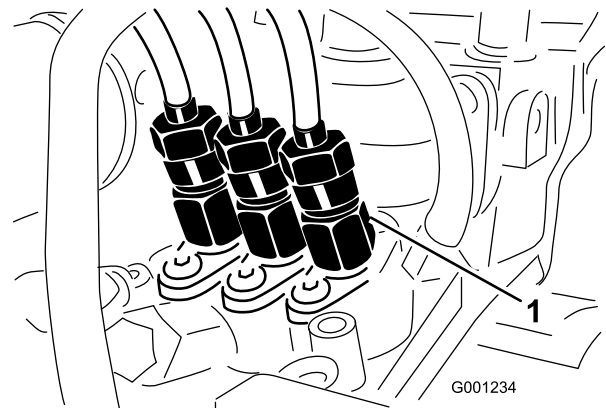

Figure 50
1. Loosen the tube nut at the No. 1 injector nozzle and holder assembly at the injection pump (Figure 50).